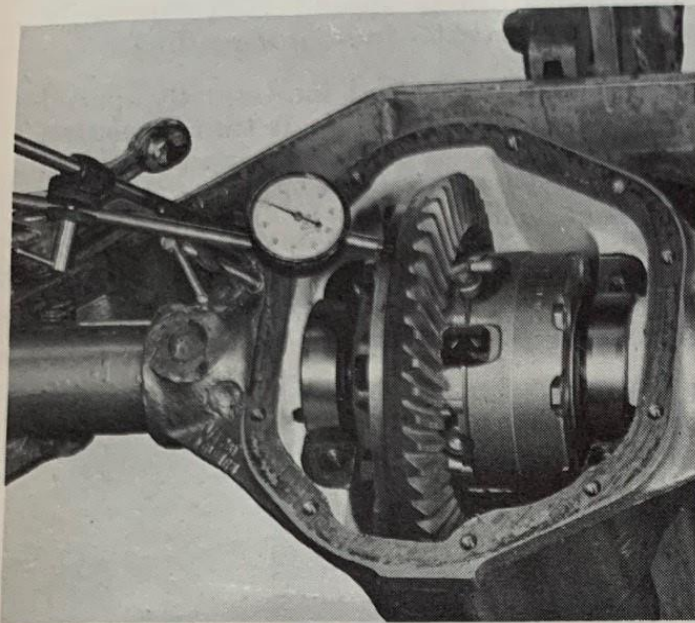

Fig. 5
13. Set the Dial Indicator Gauge with the contact point on the back face of the ring gear. Use a screw driver placed between the Bearing Cup and the Rear Axle Housing to pry the Differential Case Assembly as far as possible toward the Axle Pinion. Be sure that both bearing cups are properly seated and that the ring gear is fully in mesh with the axle pinion. Set the Dial Indicator to zero, shift the screw driver to the opposite side and pry the Differential Case Assembly as far as possible in the opposite direction again being sure that both bearing cups are properly seated. Repeat this procedure several times until the maximum reading on the indicator is obtained. (See Fig. 5.)